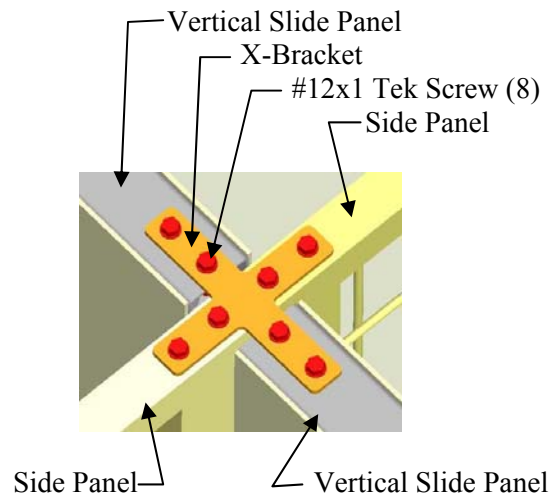

Figure 16 (On the Top)
2. For all other Side Panels and Vertical Slide Panels in the row, attach an X-Bracket by placing it on the top of both joining Side Panels and both Vertical Slide Panels using 1" self-drilling Tek Screws as shown in **(Figure 16)**.